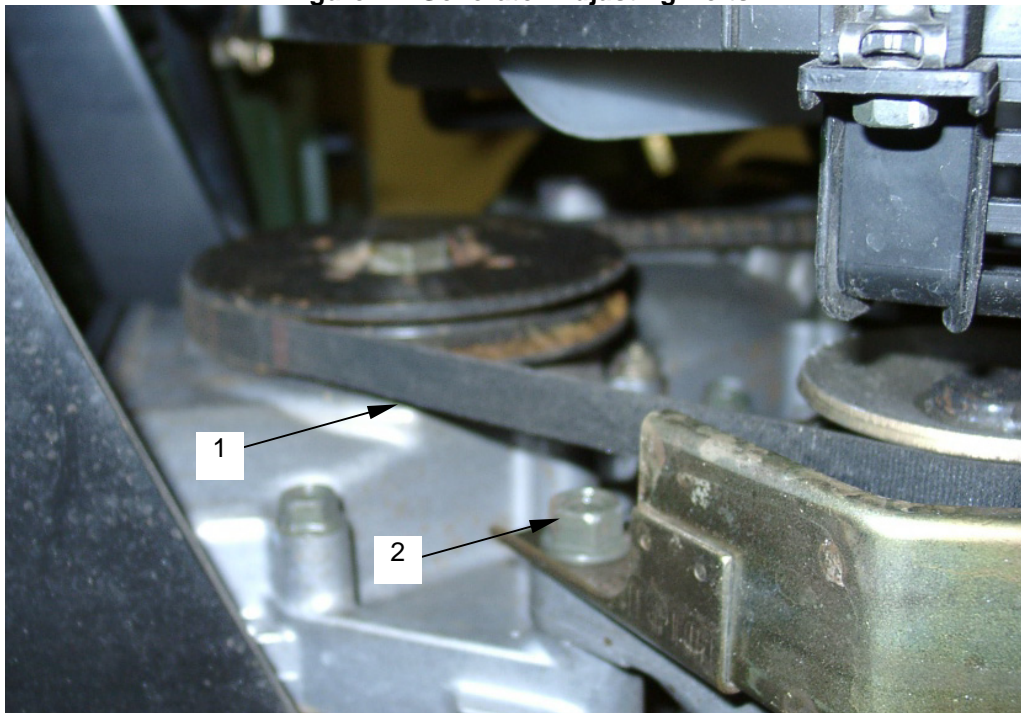

Figure 23. Fan Belt and Generator Mounting Bolt
- e. Pivot generator towards water pump to slacken the fan belt (**figure 23, item 1**).
- f. Remove the fan belt (**figure 23, item 1**).
- h. Loosen and remove generator mounting bolts (**figure 22, item 4**) (**figure 23, item 2**) on generator (**figure 22, item 2**).
- l. Fasten generator in place loosely with generator mounting bolts (**figure 22, item 4**) (**figure 23, item 2**).
- m. Install fan belt (**figure 23, item 1**) on the generator (**figure 22, item 2**) fan and engine pulleys.
- o. Tighten generator mounting bolts (**figure 22, item 4**) (**figure 23, item 2**) from 3.5-4.7 kg-m (25.3-34.0 ft-lbs).